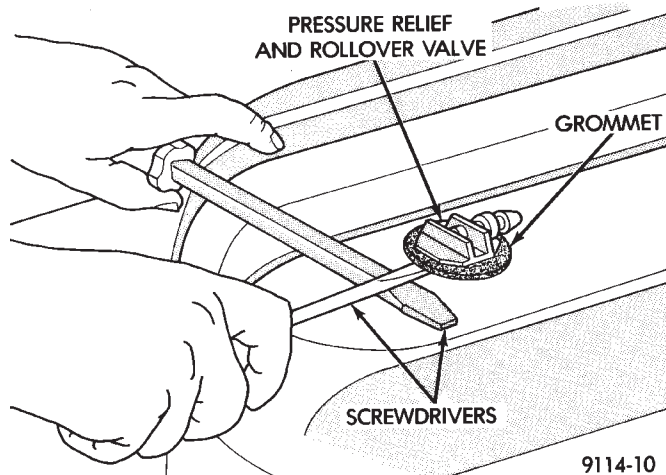

Fig. 6 Removing Pressure Relief/Rollover Valve
- (1) Remove fuel tank. Refer to Fuel Tank Removal in this section.
- (2) Wedge the blade of a screwdriver between the rubber grommet and the fuel tank where the support rib is located (Fig. 6). **Do not wedge between the valve and the grommet. This could damage the valve during removal.**
- (3) Use a second screwdriver as a support to pry the valve and grommet assembly from the tank.